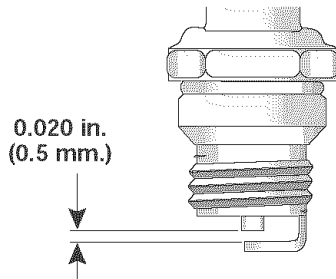

Fig. 19
3. Replace cracked, fouled or dirty spark plug. Set the air gap at 0.020 in. (0.5 mm) using a feeler gauge (Fig. 19).